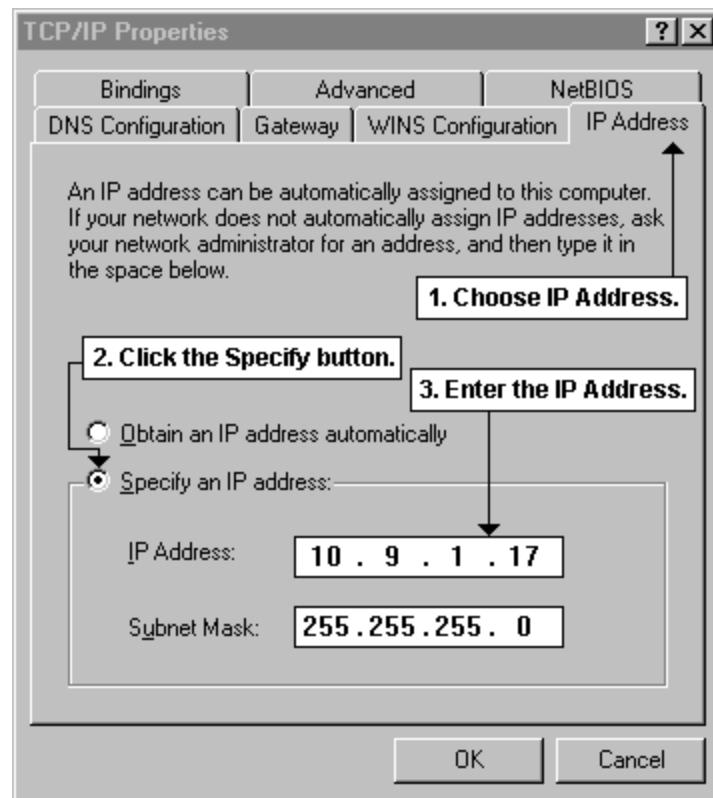

Figure 3-9
a. For Windows 9x® or NT®: (Figure 3-9)